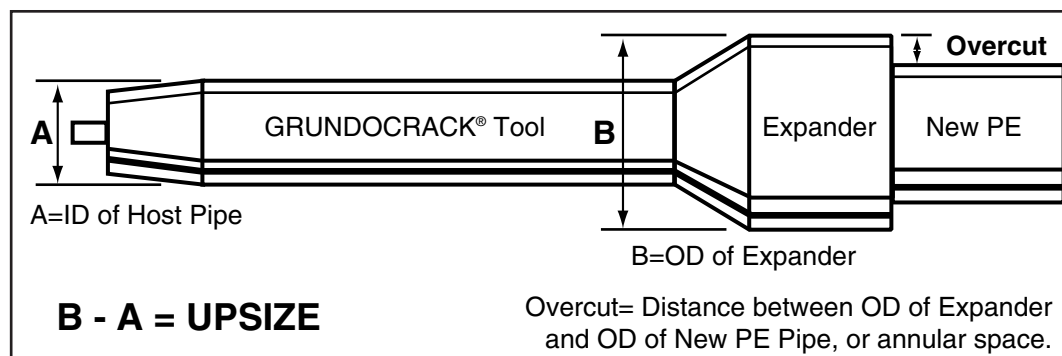

Figure 5. “Overcut” Example
- 2). As depth increases the “overcut” (difference between the OD of the PE pipe diameter and the OD of the expander diameter) may have to be increased to provide an adequate space for installation of the new pipe (Figure 5).